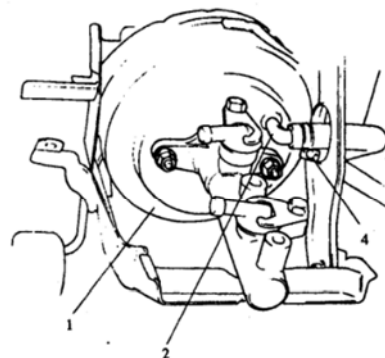

Fig.3.7-25
- (6) Connect the vacuum hose to the vacuum booster as is indicated in Fig.3.7-25.